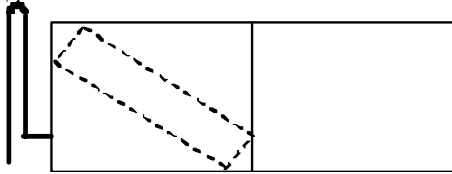

Fig 6. Evaporator unit with inverted vapor loop
2. For a system installation where the evaporator is above the condenser, an inverted vapor line trap should be installed on the suction line just before the inlet to the evaporator (see Fig 6). The top of the inverted loop must be slightly above the top of the evaporator coil and can be created simply by brazing two 90° long radius elbows together, if a bending tool is unavailable. Properly support and secure the inverted loop to the nearest point on the indoor unit or adjacent structure.